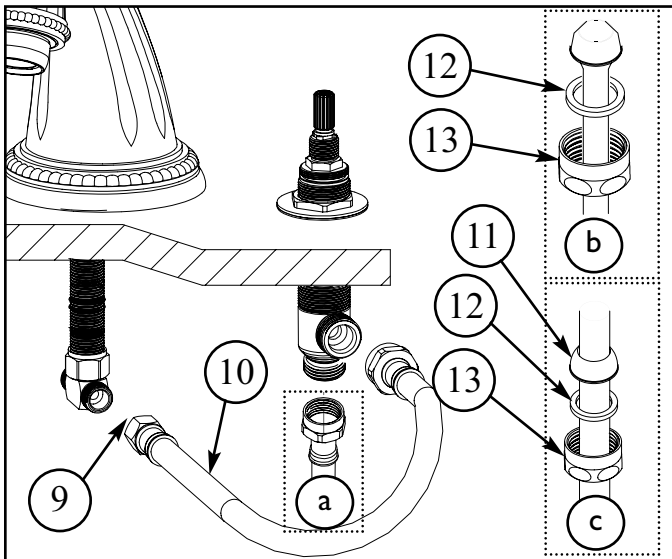
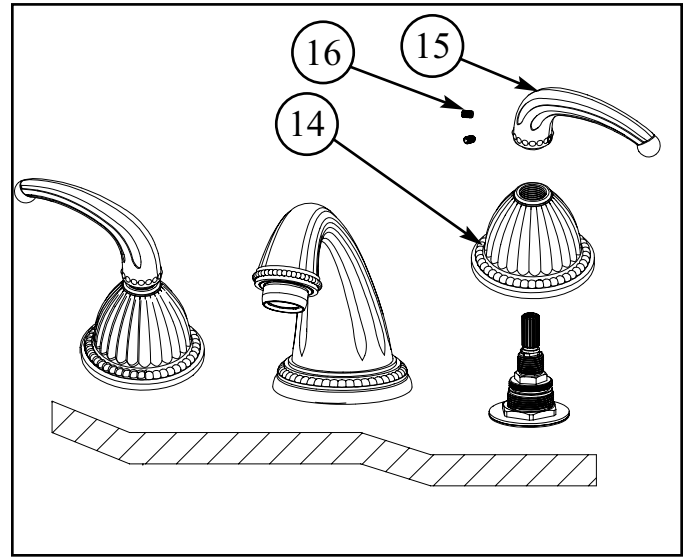

Figure 3
Figure 4
4. Connect large end of flexible HOSE (10) to side outlet of each valve BODY (7). Attach other end of HOSE (10) to either side of the TEE (9). (Hand-tighten and secure each connection with a wrench 1/4 turn.) See Figure 3.
5. Connect hot/cold water supply to appropriate 1/2" NPSM valve BODY (7), utilizing one of the three following types of risers. Supply risers not included. See Figure 3.
- a. 1/2" IPS flexible riser: discard rubber nosecone WASHER (11), friction WASHER (12) and coupling NUT (13).
- b. 3/8" or 1/2" OD bullnose riser: utilize friction WASHER (12) and coupling NUT (13).
- c. 1/2" copper riser: utilize rubber nosecone WASHER (11), friction WASHER (12) and coupling NUT (13).
6. Attach ESCUTCHEON (14) and HANDLE (15). Secure handles into place with SETSCREW (16). Any adjustments for rotational alignment must be made to the valve BODY (7) - not to the cartridge. (Note: Allow minimum spacing between HANDLE (15) and ESCUTCHEON (14) to prevent damage to the surface finish.) See Figure 4.